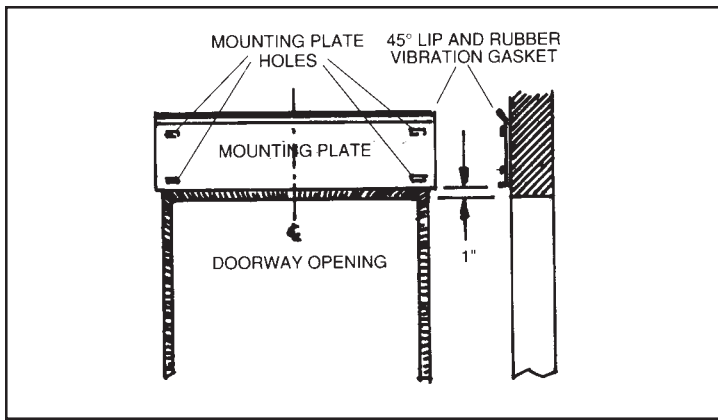

Figure 4
1. Position and center the mounting plate over the door opening. The mounting plate must be positioned with the 45° lip and the rubber vibration gasket on top. Four (4) slotted mounting holes are provided on the mounting plate. **See Figure 4.**